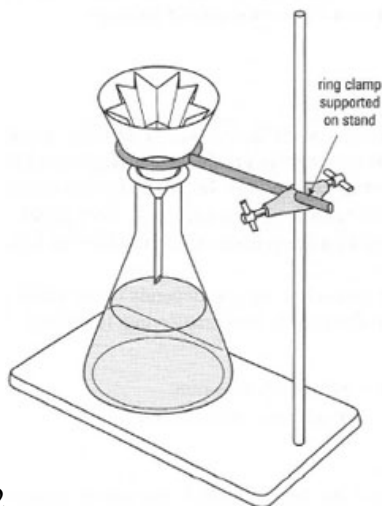

Figure 2
- Suspend the conical funnel over an Erlenmeyer flask as shown in Figure 2 below. A clay triangle may be used if the iron ring is too large to suspend the conical funnel.